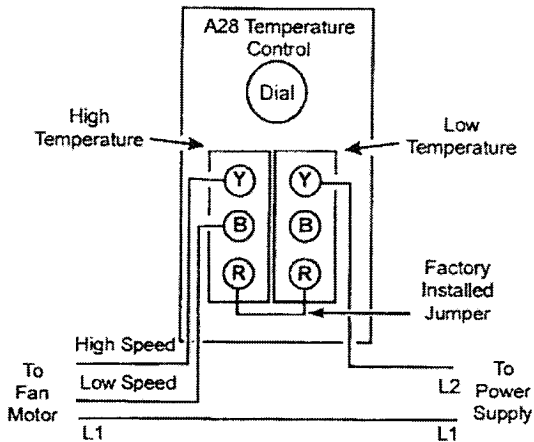

Figure 4: Typical A28 Control Wiring for Two-Speed Ventilating Fan
4. Make wiring connections to the screw terminals. See Figure 2, Figure 3, and Figure 4.
Adjust the dial to a lower or higher set point and check contact action of the switches to see that they are operating as illustrated in Figure 2, Figure 3, and Figure 4.